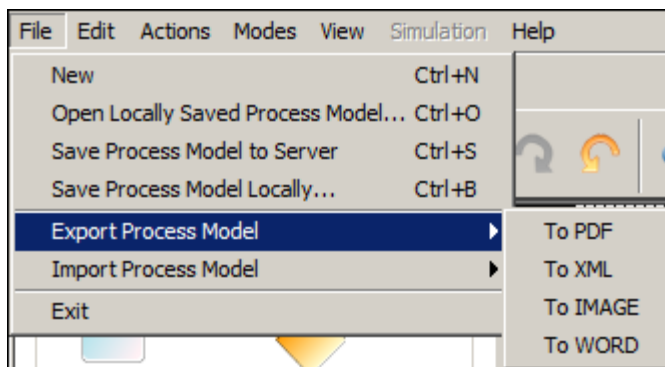

Figure 24: Export Process Model
2. Click the **File Menu** and point your cursor to **Export Process Model** option. A sub menu to select the format is displayed (see Figure 24).